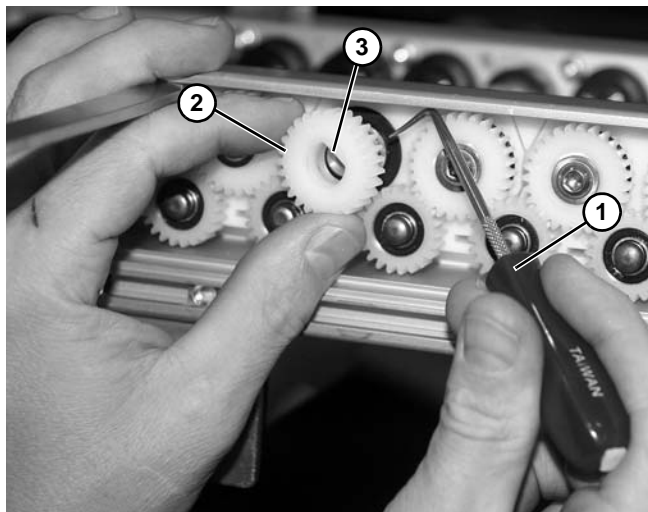

Figure 23
6. Use a small pick (Figure 23, item 1) to pry gear (Figure 23, item 2) from roller shaft. Make note of the notches (Figure 23, item 3) in the gear and roller shaft. Repeat on opposite side of conveyor.